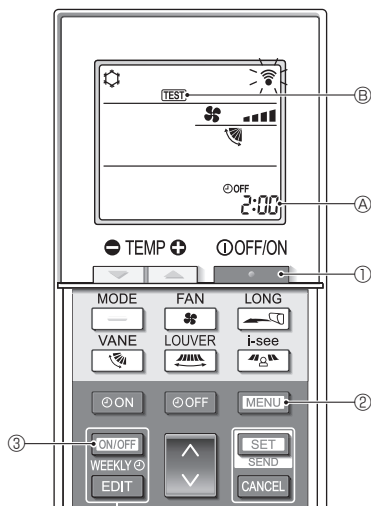

Fig. 7-5
■ Test run (Fig. 7-5)
- Press the [ON/OFF] button ① to stop the air conditioner.
- If the weekly timer is enabled (WEEKLY is on), press the [ON/OFF WEEKLY] button ③ to disable it (WEEKLY is off).
- Press the [MENU] button ② for 5 seconds.
- Press the [MENU] button ②.
- TEST ④ comes on and the unit enters the test run mode.